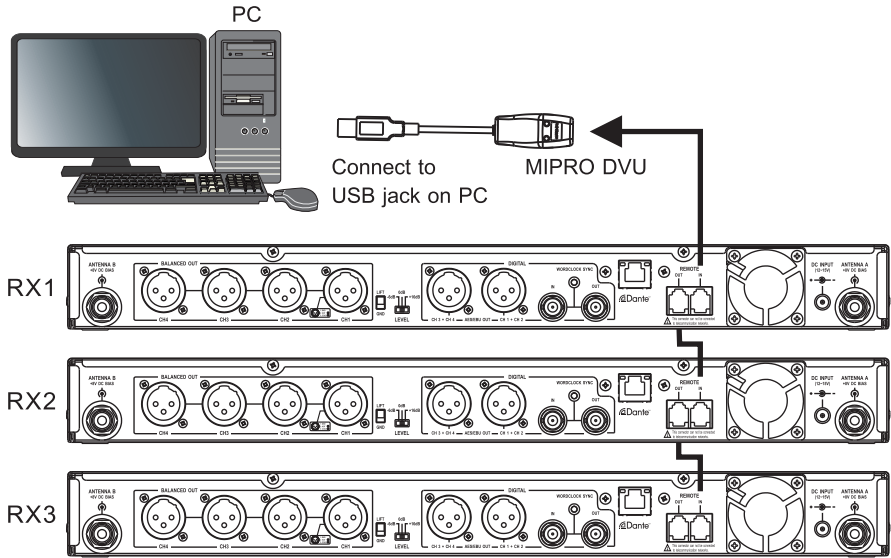

Fig.28
2. MIPRO DV Wiring Instructions. Fig. 28:
- (A) Use supplied hardware cable for serial connection to MIPRO receivers and PC network interface connector **17**.
- (B) Next, use an USB connector to link receivers input interface connector via MIPRO DVU to a computer USB PORT.
- (C) Up to 64 receiver channels can be connected, remote-controlled and monitored.
- (D) The network cable length can be connected up to 300 meters, but the longer it is, the transmission quality will be more unstable. The ideal cable length for optimal transmission quality is less than 100 meters.